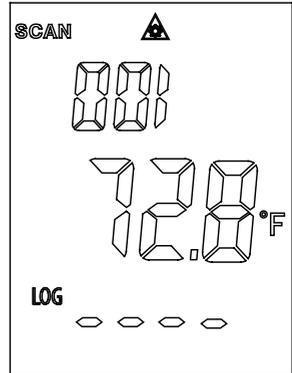

Fig. 1
1. While holding the trigger, press the **MODE** button until the **LOG** icon appears in the lower left corner of the screen. A LOG location number will be shown in the top display and “\_\_\_\_” will appear in the bottom display if no temperature has been saved to that location (Fig. 1).